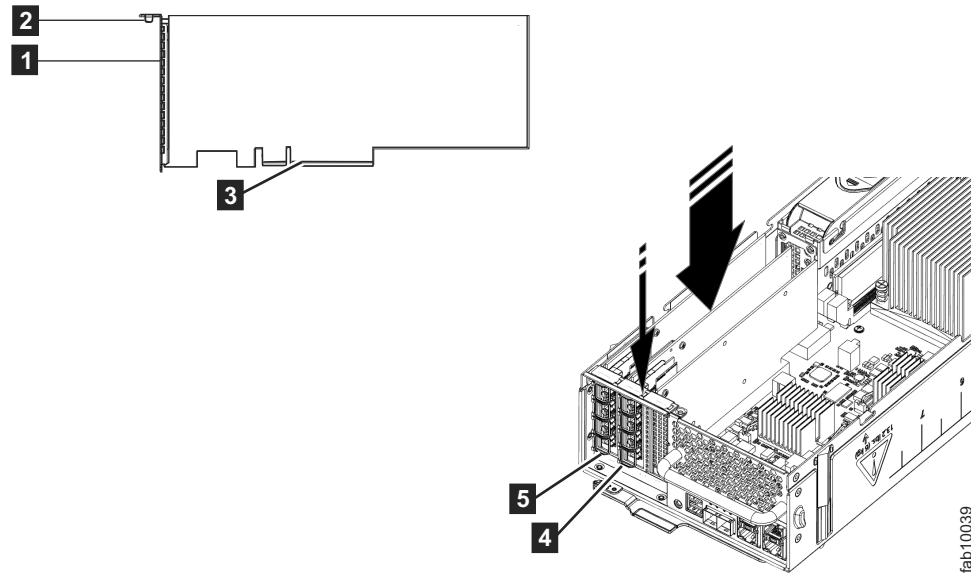

Figure 47. Installing the host interface adapter
6. Remove the replacement host interface adapter **1** from its package. Figure 47 on page 187 displays installing the host interface adapter.